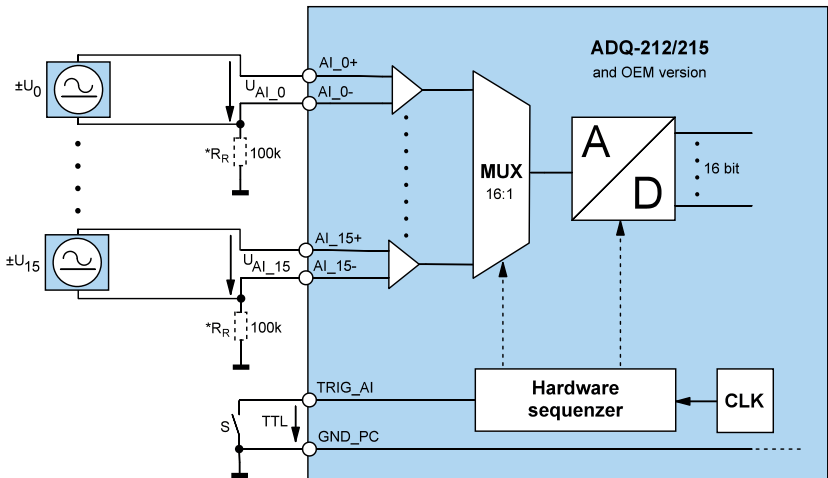

Figure 5: Differential inputs
***TIP:** We recommend to connect each differential input with PC ground by a reference resistor R_R (100 k Ω recommended) as shown in Figure 5.